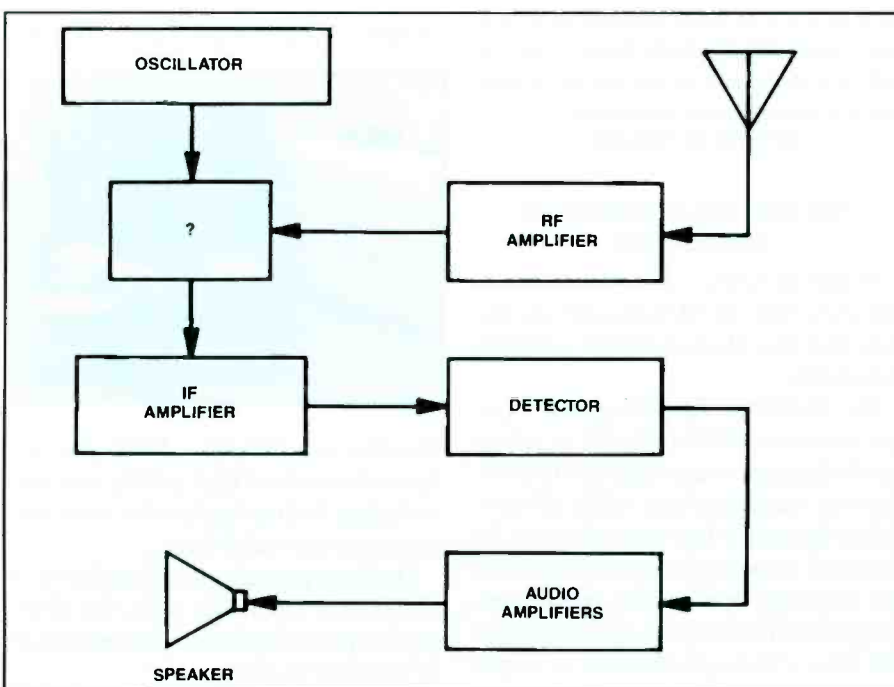

Figure 2
Figure 2. Sony's classic Model KV1722 featured a 110-degree CRT and a slim profile. The horizontal deflection circuit of this set is based on a single gate-controlled switch.
4. What is the name of the block with the question mark in Figure 2?